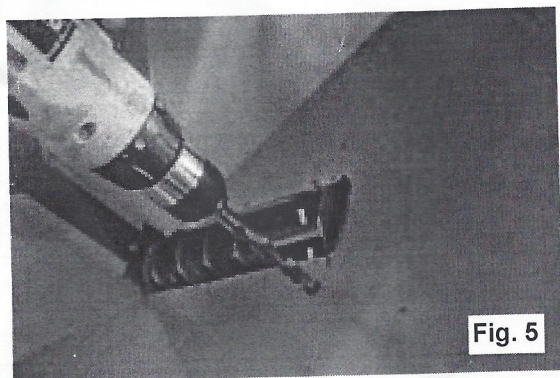

Fig. 5
5. Drill a 1/2" hole in location (Measurement must be correct to stay within the confines of the cover that will be attached later). See Fig. 5.